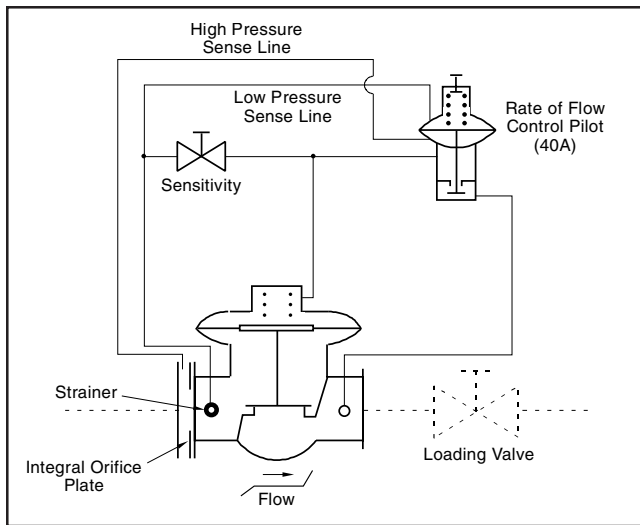

Figure 1—Model 200-40A
With product flowing, the Flow Limiting Valve is held open by the differential pressure across the main valve (200) diaphragm (Figure 1). The pressure beneath the main valve diaphragm (inlet pressure) is greater than the pressure in the main valve cover chamber which is vertical through the normally-open 40A Rate of Flow Control Pilot (installed downstream of the pilot loop). The 40A pilot is held open by the spring in its cover chamber. As product flows through the valve, a pressure differential is created across the valve orifice plate. The higher pressure sensed on the upstream side of the orifice plate is transferred through a sense line to the pressure chamber beneath the 40A pilot diaphragm. The lower pressure sensed downstream of the orifice plate is transferred to the cover chamber of the 40A pilot. As the flow rate increases, the differential pressure across the orifice plate increases. This increase in differential pressure causes the 40A pilot stem assembly to close gradually, restricting the vent path of the main valve cover chamber through the 40A pilot orifice. As the flow rate approaches the maximum flow rate setting, the 40A pilot creates a gradual build-up of pressure in the cover chamber of the main valve, causing it to throttle. Thereby limiting flow through the valve. The flow rate limit setting is increased by screwing in the pilot adjusting screw on the 40A and increasing the spring force.